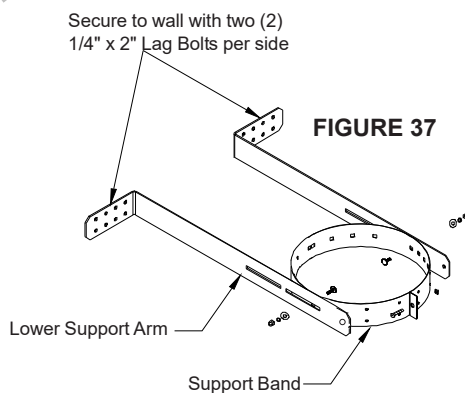

FIGURE 37
6. Install the Lower Support Arms on the external wall by using two (2) 1/4" x 2" lag bolts (see Figure 37). Attach the Upper Support Arms and Brackets to the Lower Support Arms with nuts and bolts through holes at ends. Install the Upper Support Arm Brackets on the external wall using four (4) 1/4" x 2" lag bolts (see Figure 39). NOTE: Ensure all lag bolts are anchored to structural members; not just to the wall sheathing.